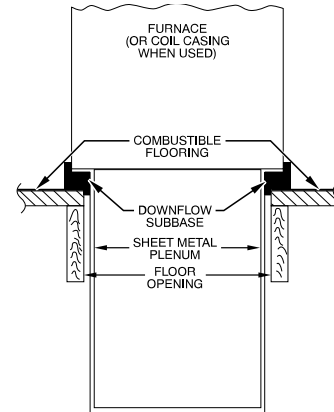
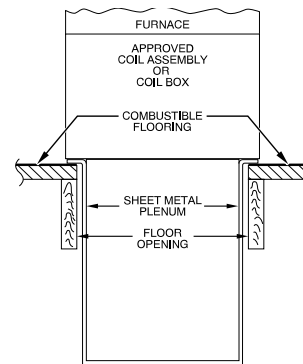

Fig. 12 – Furnace, Plenum, and Subbase Installed on a Combustible Floor
Fig. 13 – Furnace, Plenum, and Coil Assembly or Coil Box Installed on a Combustible Floor
4. If downflow subbase is used, install as shown, see Fig. 12. If manufacturer’s cased evaporator coil or coil casing is used, install as shown in, see Fig. 13.